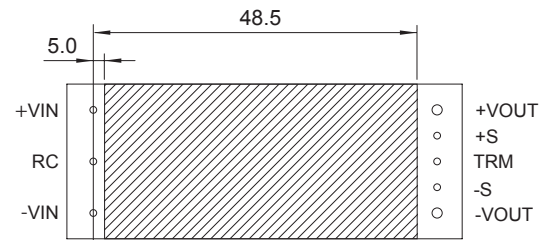

Fig. 6.1 Prohibition area of pattern layout (top view)
■ Avoid placing pattern layout in hatched area shown in Fig.6.1 to insulate between pattern and power supply.